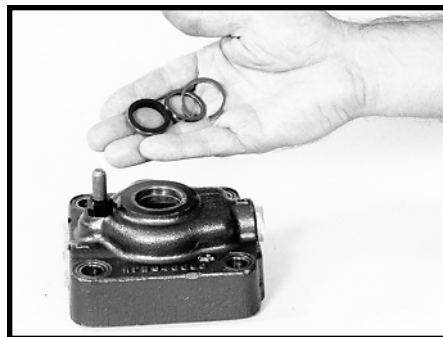

Figure 66
30. Remove the steel backup washer (6), the input shaft seal (7), and the input shaft O-ring (8) from the valve housing (9). Discard the seal and O-ring. SEE FIGURE 66.